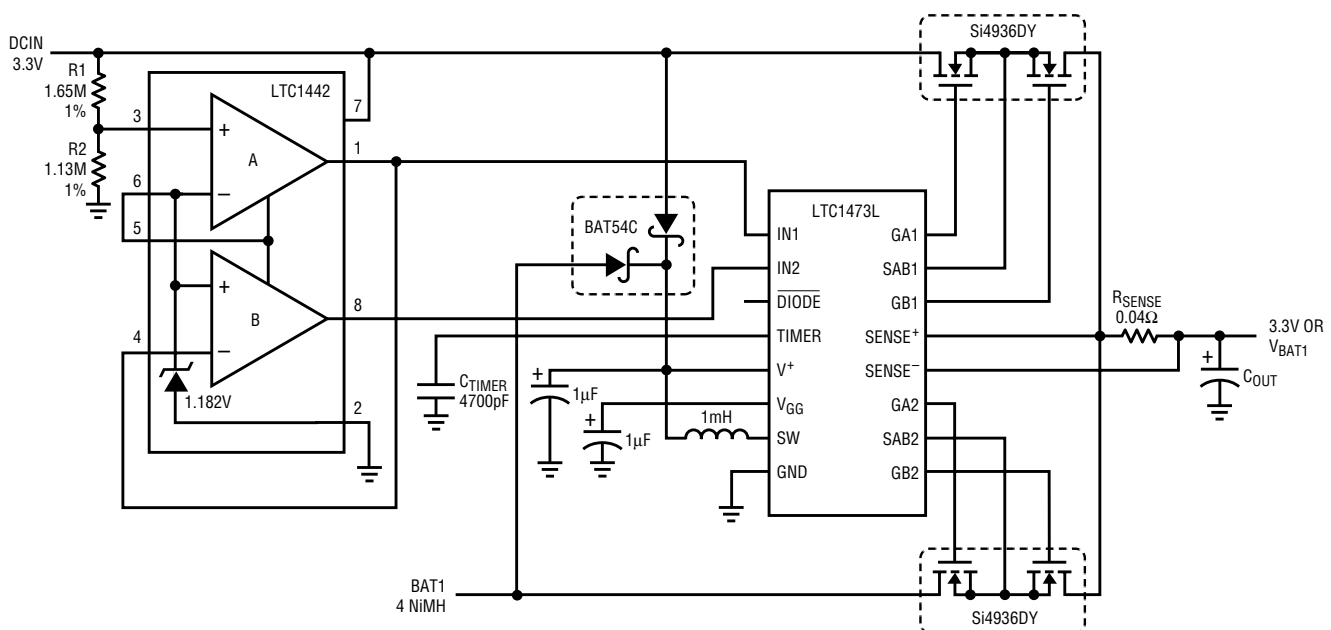

Figure 1. Automatic PowerPath switching for 3.3V applications
Figure 1 is a schematic diagram of an automatic PowerPath™ switch for 3.3V applications. The LTC1442 micropower, low voltage, dual comparator monitors the DC supply rail with its internal 1.182V reference and
have a limited bandwidth of 20kHz to 50kHz; as a result, a current regulator based on such a sensor has a slow transient response. As far as the cost and simplicity are concerned, current sense resistors are the better choice, as long as power dissipation is within the acceptable limits. The power dissipation in a current sense resistor depends on the current and the voltage across the resistor. Hence, keeping the voltage drop across the current sense resistor low is very important. The circuit in Figure 1 is a constant-current (CC), constant-voltage (CV) DC/DC converter that generates 20A of output current and maintains efficiency greater than 95% with a 24V input and 12.6V output.
To achieve high efficiency, the circuit in Figure 1 employs the LTC1625 No R_{SENSE} ™ current mode DC/DC controller and LT1620 rail-to-rail current sense amplifier. The LTC1625 current mode controller does not require a current sense resistor to obtain the instantaneous current feedback for current mode operation. The instantaneous current value is obtained by sensing the voltage drop across power MOSFETs M1 and M2. Also, the LTC1625 provides overcurrent protection with current foldback that is based on the voltage drop across the MOSFETs. Unfortunately, the $R_{DS(ON)}$ of MOSFETs is a poorly controlled parameter that yields an overcurrent protection variation of more than 30%.
Figure 1. Constant-current (CC), constant-voltage (CV) DC/DC converter generates 20A of output current and maintains efficiency greater than 95% at a 24V input and 12.6V output.